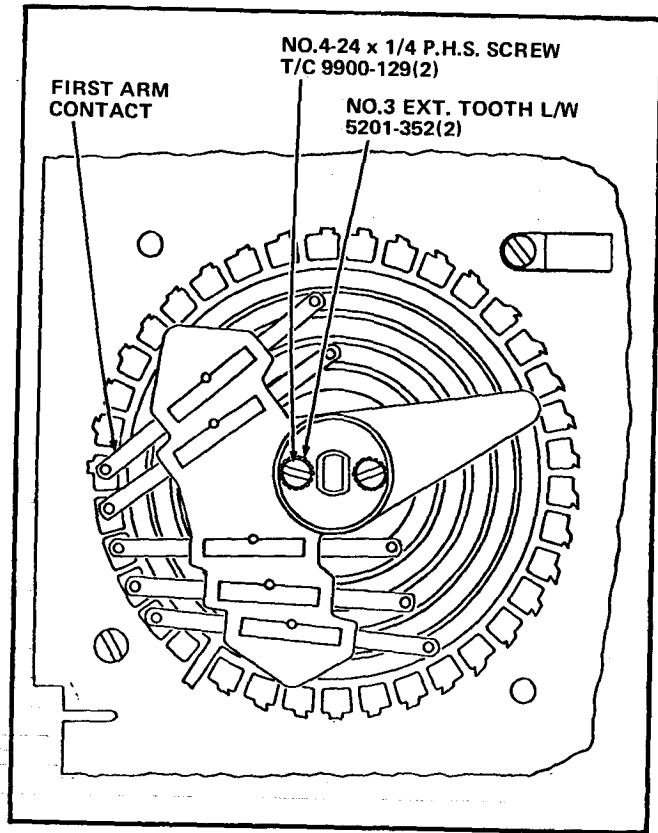

FIGURE 6
- h. Adjust the Switch Arm Assembly so the first Contact on the Arm fits in the upper part of the first Silver Colored Contact on the PC Board as shown in Figure 6. Tighten the two Screws left loose in step I-2-g, above.